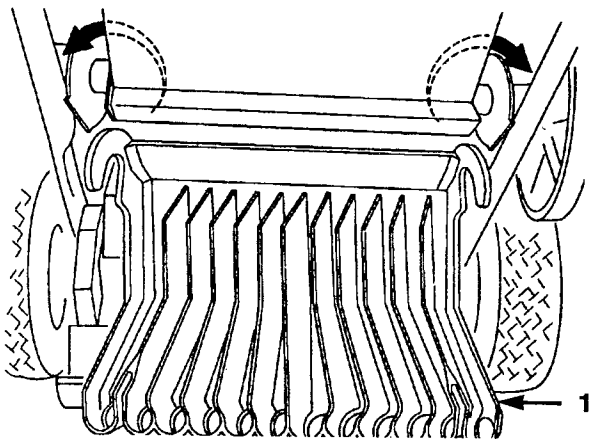

Figure 95
5. Install the chute (Fig. 95). Notice that the chute has a hook at both sides.
6. Loosely install a clamp to each side of the mower handle, using carriage bolts and lock nuts (Fig. 95). Make sure the clamps slide on the handle.
3. Rotate the chute up and slide it forward to disengage the hooks from the axle (Fig. 95).